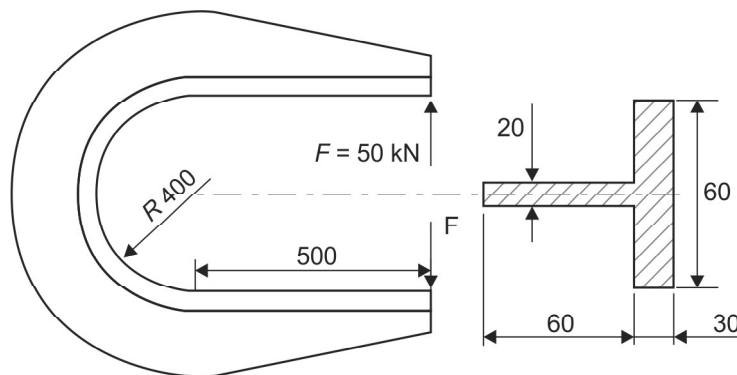

Fig. M1.7
b. The beam shown in **Fig. M1.7** is subjected to a load of 50 kN. Determine the stresses at the inner and outer fibers. Plot the stress distribution. **(16 Marks)**